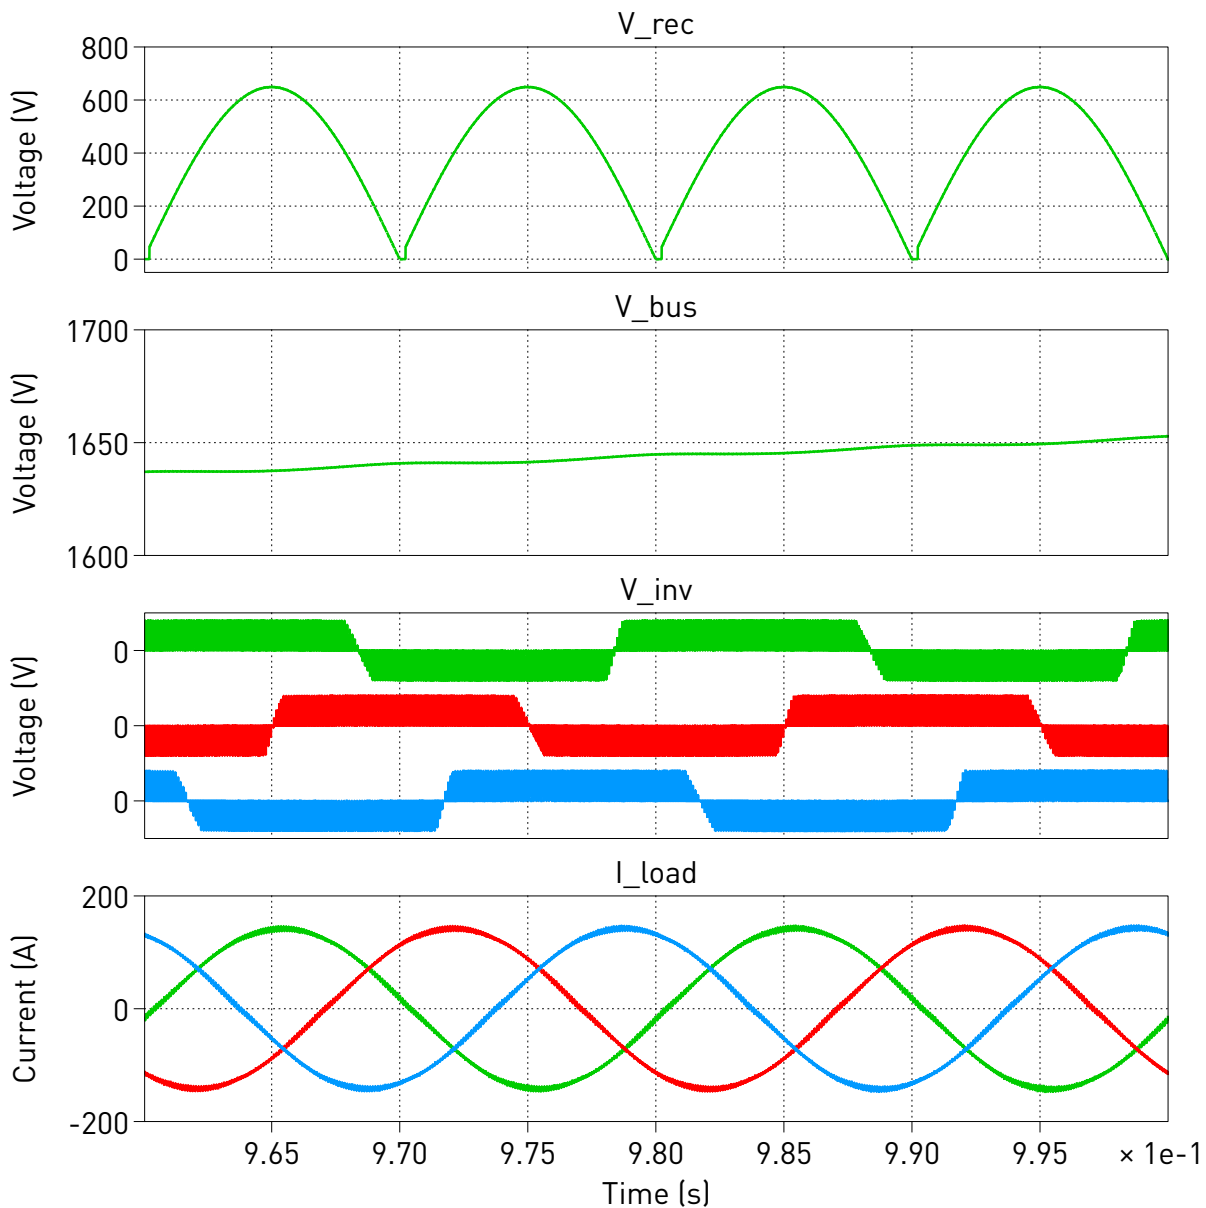

Figure 3: Simulation results of the rectifier and inverter system
- Run the simulation and observe the key waveforms in the Scope. They should look like in Fig. 3.
- 5 Run the PLECS simulation. Observe the Scope waveforms inside each subsystem. These should show similar results as the Scope in the unified system model in Fig. 3.
- ❓ Once both Boxes are running, click **Connect** under the **External Mode** tab for each Box, then click **Activate autotriggering** to observe the real-time waveforms in the Scope. They should show similar results to the ones shown in Fig. 3. Now what is the execution time for each Box?
- 2 For the slave “Inverter” Box, change the **Master for startup/clock** combo box to the **SFP A** option, then check the option **Use clock from master**. Proceed to build each model on each Box, enable external mode on both Boxes, and observe the waveforms again in the **Scopes**. They should show similar results to the ones shown in Fig. 3.
- 5 Enable external mode on both Boxes, and again check the running waveforms inside the Scopes. They should show similar results to the ones shown in Fig. 3.